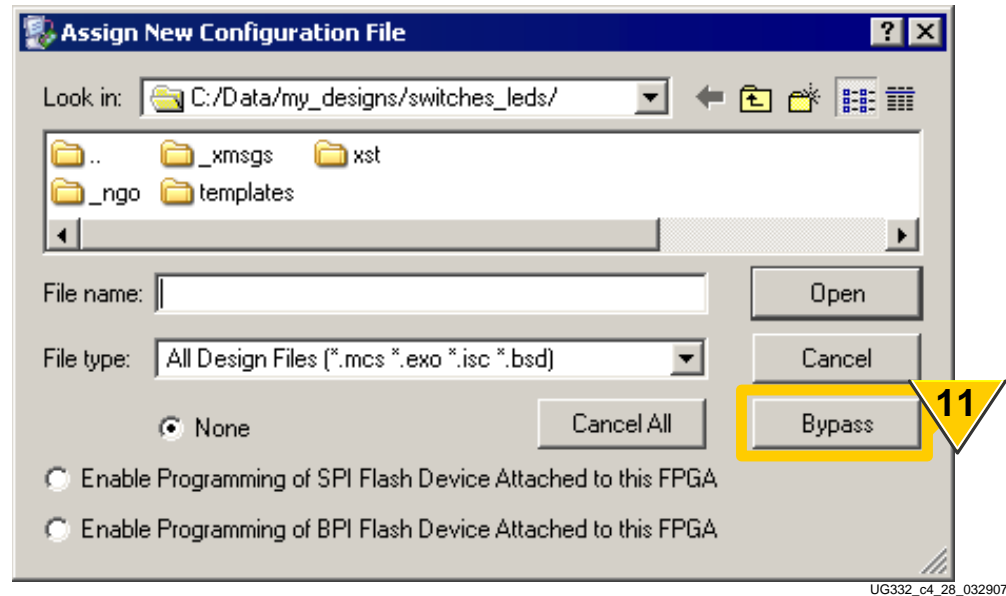

Figure 4-26: Bypass the Platform Flash PROM
11. Select **Bypass** when prompted for the Platform Flash PROM programming file, as shown in Figure 4-26.